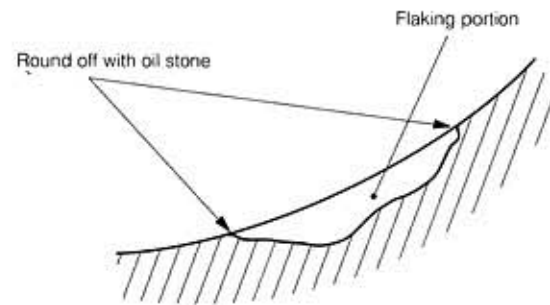
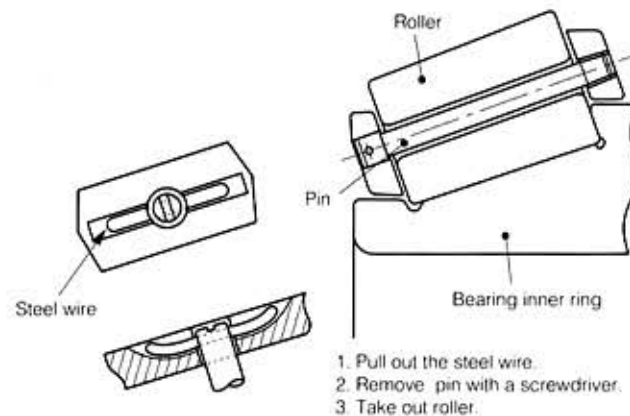

Fig. 4.1 Correction of flaking in the raceway surface
Fig. 4.2 How to remove the inspection pin for a pin type cage
- (5) Check the raceways of the inner and outer rings and the roller rolling surface for flaking. Raceway and rolling surfaces may suffer fatigue due to repeated load after extended use, resulting in flaking. As a rule, bearings having such flaking must not be reused. If flaking is minor and occurs on the outer ring, grind the area around the flaking with a hand grinder as shown in **Fig. 4.1**, round off the boundary between raceway and ground surfaces with an oil stone, and change the load position for reuse. If the pin type cage has an inspection pin, remove the pin as shown in **Fig. 4.2**. The inner ring raceway can be checked.
- (6) Check the raceway and rollers for any rust. If rust is observed on the raceway and rollers, any minor rust can be removed with sand paper or oil stone. If there is deep-rooted rusting in an interval equivalent to roller pitch over the entire length of the roller, the bearing must be scrapped.
- (7) Check the rolling surface and rollers for any smearing. Minor smearing can be rounded off by an oil stone. By improving the lubrication at time of reuse, further progress of smearing can be prevented.
- (8) Check the raceway surfaces of the inner or outer ring and the roller rolling surface for excessive denting or assembly damage. Excessive dents due to inclusion of foreign materials may lead to early flaking. It is essential to remove the cause. Most important is to prevent